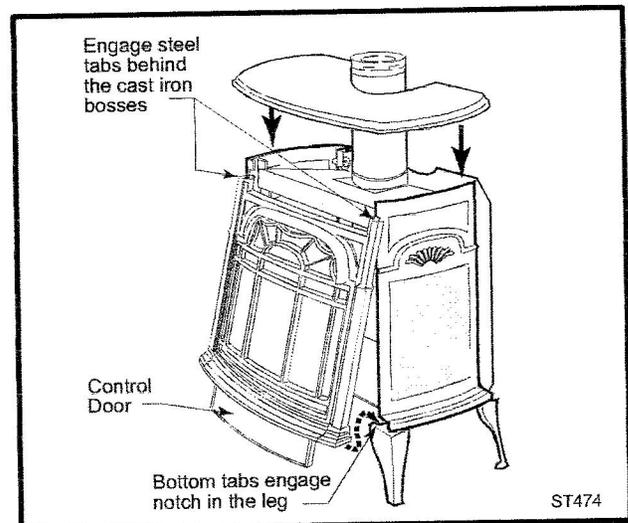

Fig. 58 Install the front plate.
1. Remove stove front. Lift stove front up and then swing bottom out and away to disengage from the stove body. (Fig. 58, Page 27)
2. Place the top plate over the sides and front. The upper edges of the side plate should seat into the channel in the underside of the top. (Fig. 58)